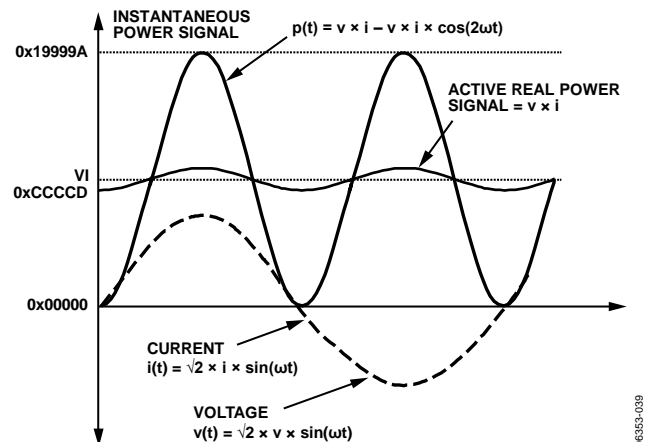

Figure 64. Active Power Calculation
Note that the active power is equal to the dc component of the instantaneous power signal  $p(t)$  in Equation 11, that is,  $VI$ . This is the relationship used to calculate active power in the ADE7116/ADE7166/ADE7169/ADE7566/ADE7569. The instantaneous power signal  $p(t)$  is generated by multiplying the current and voltage signals. The dc component of the instantaneous power signal is then extracted by LPF2 (low-pass filter) to obtain the active power information. This process is illustrated in Figure 64.
The ADE7116/ADE7166/ADE7169/ADE7566/ADE7569 also incorporate an active power offset register (WATTOS[15:0], Address 0x20). It is a signed, two's complement, 16-bit register that can be used to remove offsets in the active power calculation (see Figure 64). An offset can exist in the power calculation due to crosstalk between channels on the PCB or in the IC itself. The offset calibration allows the contents of the active power register to be maintained at 0 when no power is being consumed.
As mentioned in the Active Energy Calculation section, the discrete time sample period (T) for the accumulation register is 1.22 μs (5/MCLK). With full-scale sinusoidal signals on the analog inputs and the WGAIN register (Address 0x1D) set to 0x000, the average word value from each LPF2 is 0xCCCCD (see Figure 64). The maximum positive value that can be stored in the internal 49-bit register is 248 (or 0xFFFF,FFF,FFF) before it overflows. The integration time under these conditions when WDIV = 0 is calculated in the following equation: